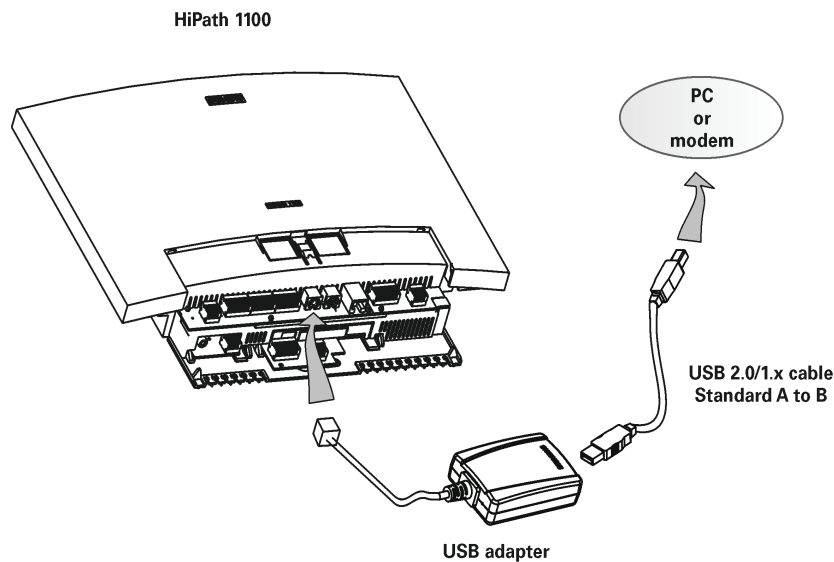

Figure 3-15 Illustration of USB cable connection
1.	Plug the USB adapter cable (with the male Mini DIN Connector) into the 4-pin Mini DIN Connector on the motherboard (Figure 3-15).